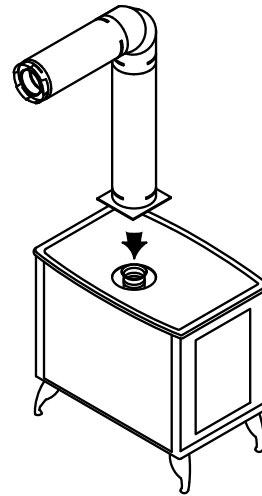

Figure 4
Step 2. DirectVent Pro pipe and fittings are designed with special twist-lock connections. To connect the venting system to the appliance flue outlet, a twist-lock Appliance Adaptor is required. With some brands of appliances, the M&G DuraVent Appliance Adaptor will be built into the appliance at the factory. With other brands the adaptor will be supplied by the appliance manufacturer for installation in the field. Assemble the desired combination of Pipe Sections and Elbows to the Appliance Adaptor (**Fig. 4**).